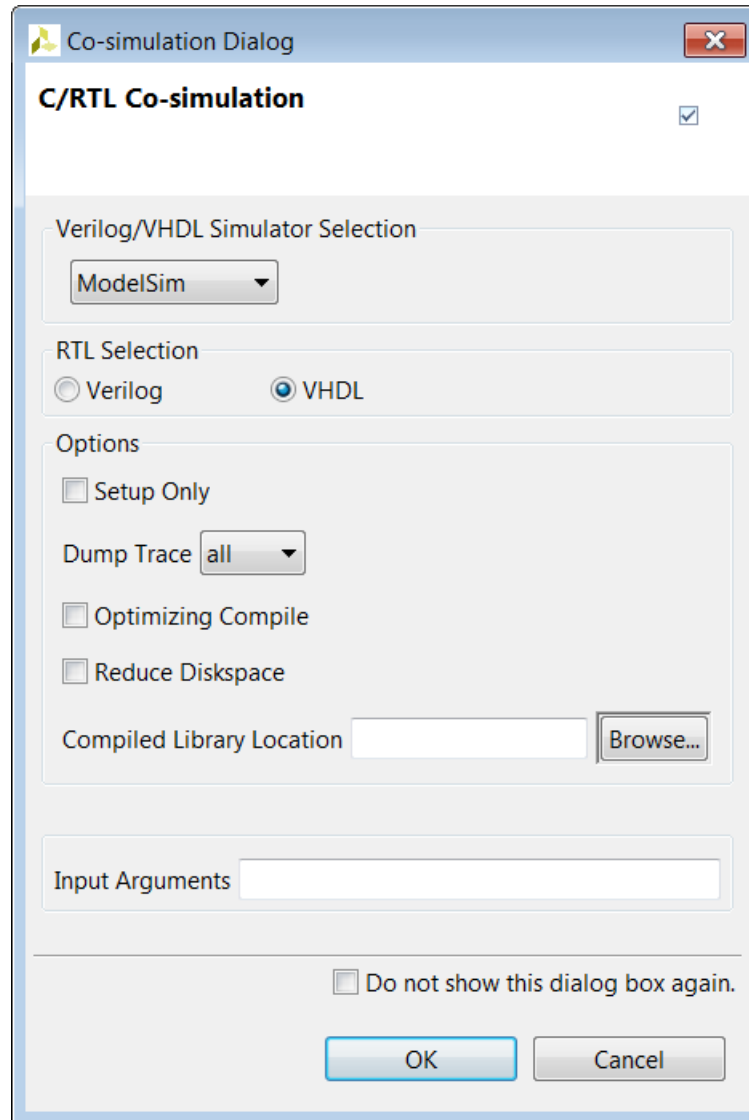

Figure 8-15: CoSimulation Dialog Box for Lab 3
- c. Activate the **Dump Trace** drop-down menu and select the **all** option, to have the options shown in Figure 8-15.